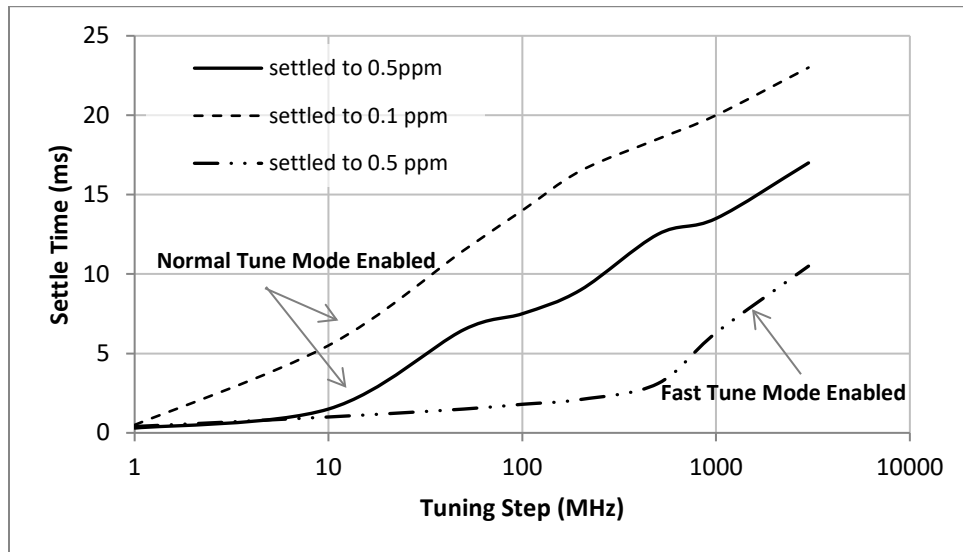

Figure 2. Typical frequency settling time versus tuning step with a 3600 MHz final frequency.
- (3) To give users flexibility, the device has 3 resolution modes; two coarse modes and one fine mode. The coarse modes using fractional N PLL's allow 1 MHz and 25 kHz steps, while the fine mode (aided by a DDS) provides 1 Hz resolution. All modes provide exact synthesized frequencies. See the appropriate sections of this manual for further information.
- (4) Locked and settled to < 1 ppm of final frequencies of > 500 MHz for step size of < 10 MHz. For final frequencies < 500 MHz the settle time applies to accuracy within 500 Hz of the final frequency for a < 10 MHz step size. See Figure 2 for examples of other tuning step settling times. When fast-tune mode is enabled the noise damping capacitor across the main YIG tuning coil is disengaged, resulting in an increase of the rate of current flow through the coil and settling to a steady state quicker. Lock time begins when the full tuning word command is received by the device.